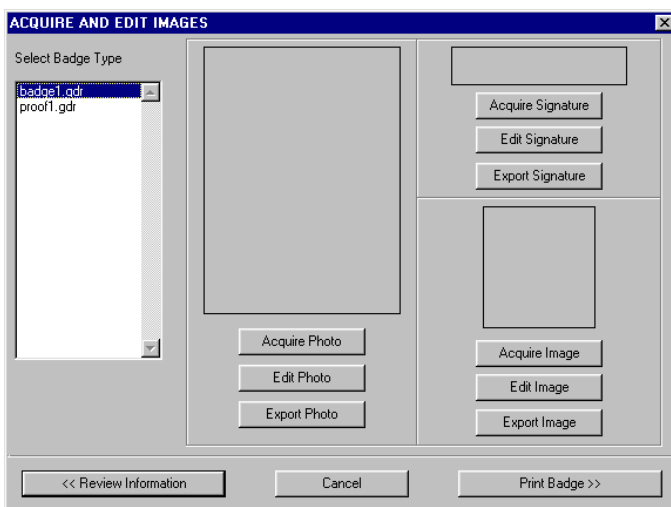

Figure 21: Acquire and Edit Images
1. Continuing from Step 7 and Figure 20 above, click the Badge Type you have chosen for this cardholder (see Figure 21 on page 17). These Badge Types are the templates created in the GuardDraw program (see Section 3.0 on page 4).